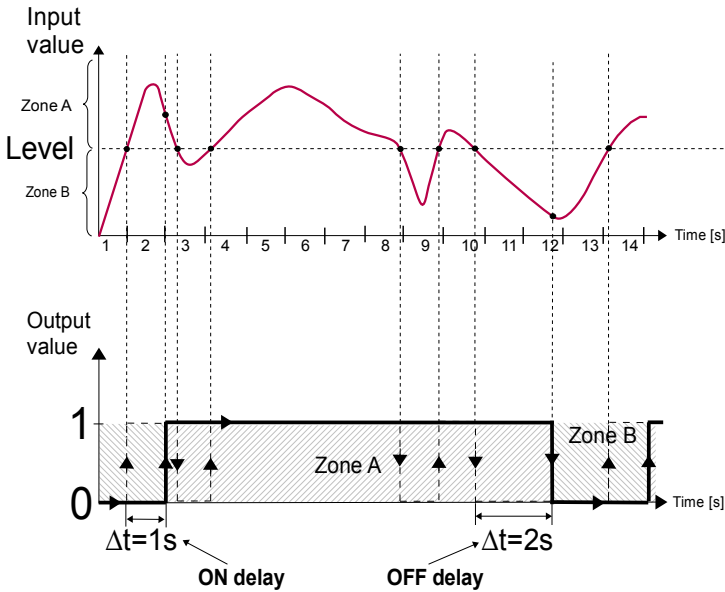

Fig. 7.84. Principle of relay output operation for sample timing settings:
- **ON delay** - this parameter allows the setting of the time that must pass from the time of exceeds **Level** value until the output switch from low to high state (see Fig. 7.84),
- **OFF delay** - this parameter allows the user to set the time that must pass from the time of exceeds **Level** value until the output switch from high to low state (see Fig. 7.84),